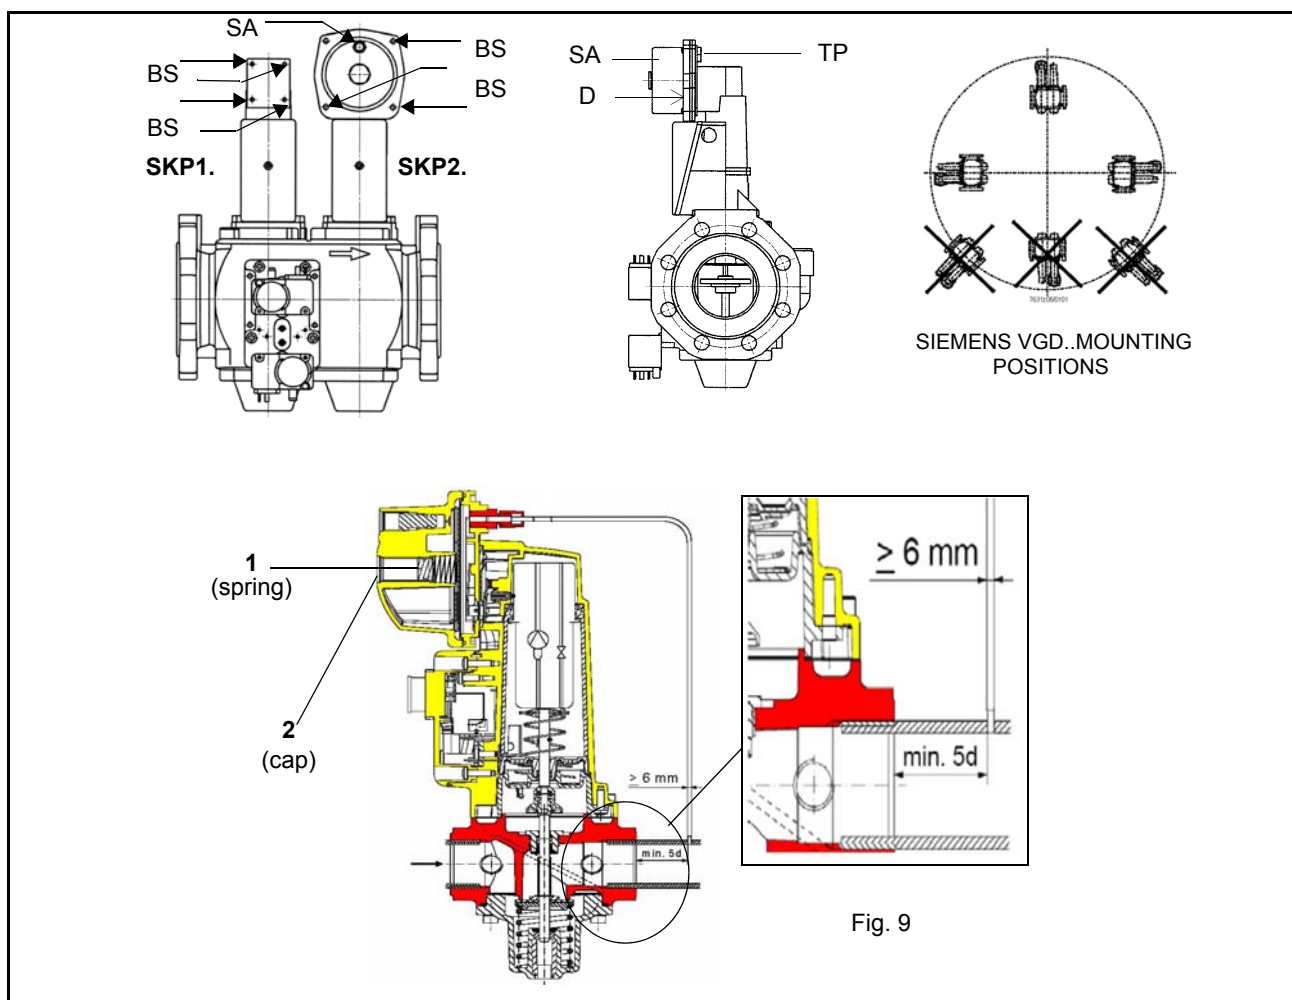

Fig. 9
**Caution:** the SKP2 diaphragm D must be vertical (see Fig. 9).